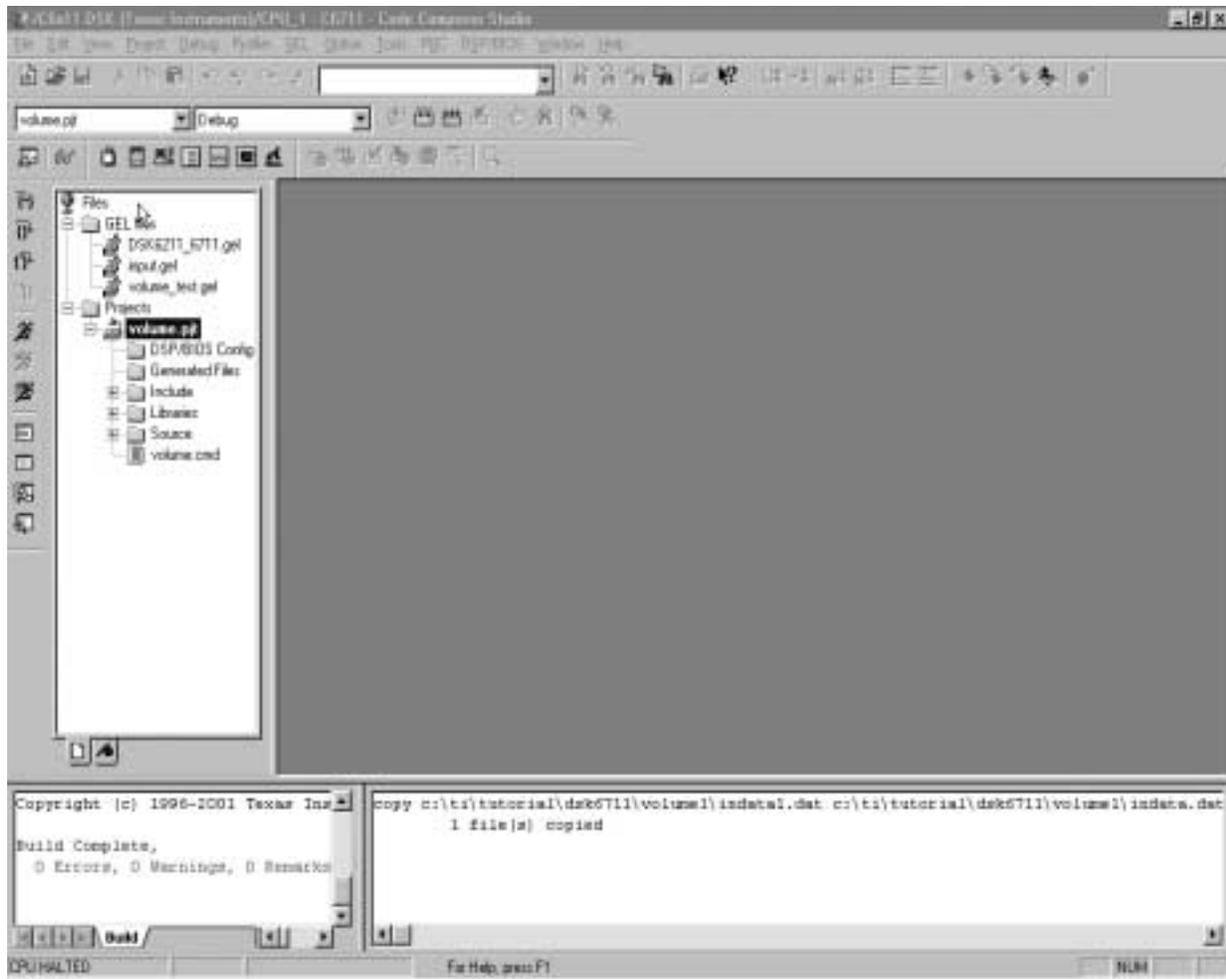

Figure 5. Startup View for Multiple Test Vector Case
5. If you did the previous sections, the volume_test.gel file should already be in you board file. Save the changes and restart CCStudio with your board file setup (refer to section 2.1 for the procedure). Notice the features and functionality of the automation. Your screen should look similar to Figure 5.